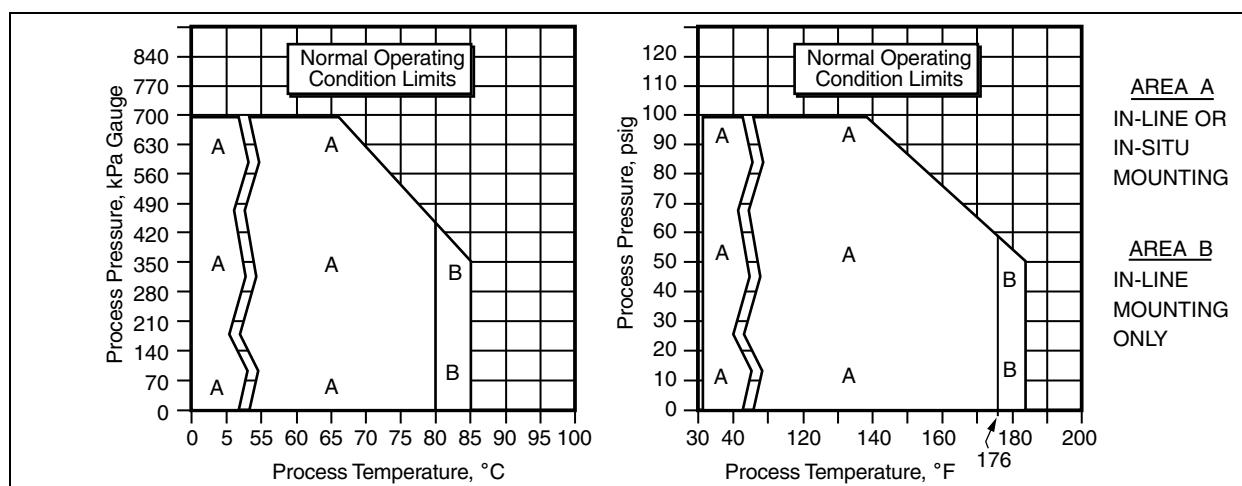

Figure 1. Process Pressure-Temperature Limits
The limits shown in Figure 1 are applicable to all
(a) See Figure 1 for pressure-temperature rating.
- (a) See Figure 1 for pressure-temperature rating.
The electrode protection sleeve protects the glass electrode from contacting the bottom or side of a tank. This PVDF sleeve is applicable to submersible applications, and is usable within the pressure-temperature limits shown in Figure 1. Specify Foxboro Part Number BS805TJ.